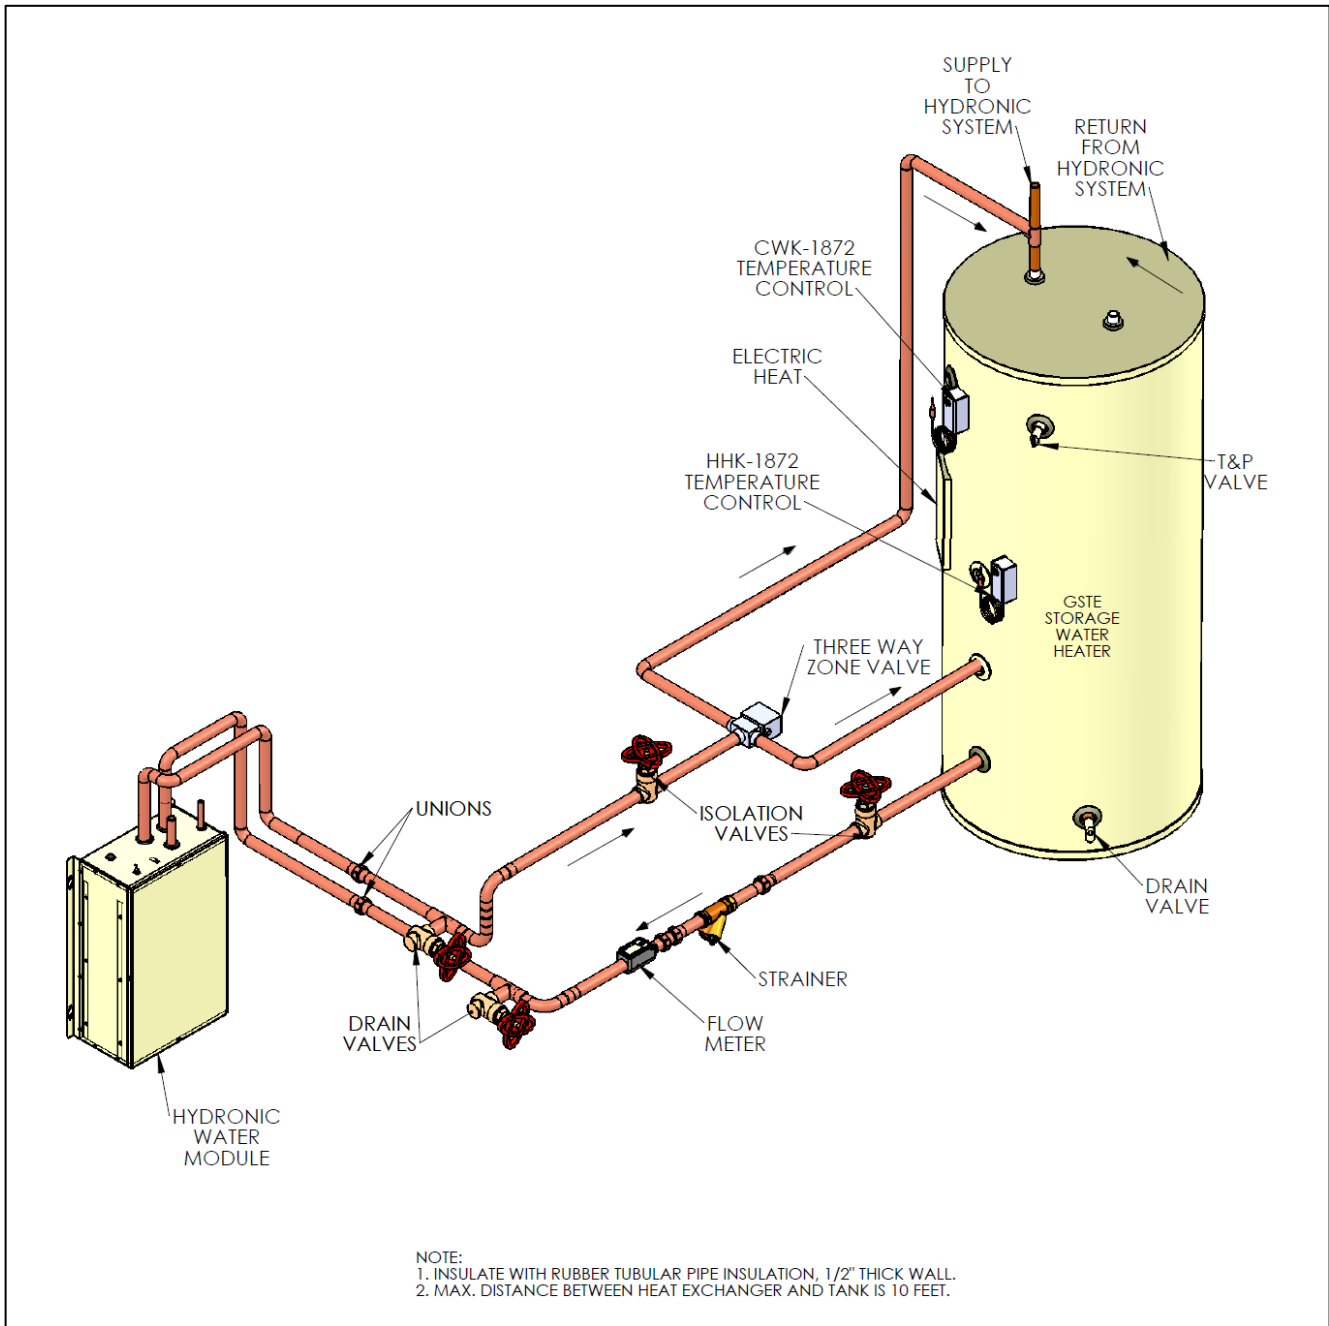

Figure 11d. Typical SD(A) Primary Hydronic Circuit Plumbing
A typical primary hydronic plumbing circuit for an SD(A) system is illustrated in Figure 11d.